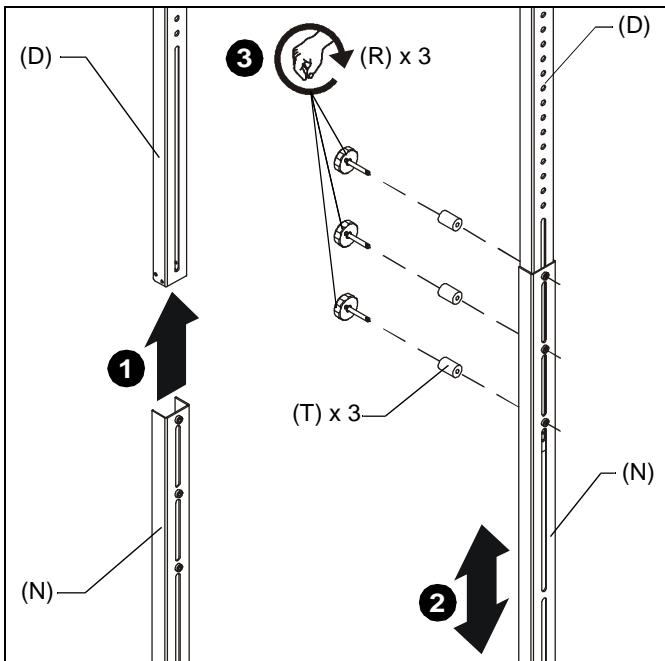

Figure 1
1. Slide adjustable leg (N) up over bottom of upright assembly (D). (See Figure 1)
2. Adjust leg (N) as necessary to set the correct length of entire leg assembly. (See Figure 1)
3. Fasten adjustable leg (N) in place using three knobs (R) and three 1/8" spacers (T). (See Figure 1)
4. Repeat Steps 1 through 3 on the other upright assembly (D).